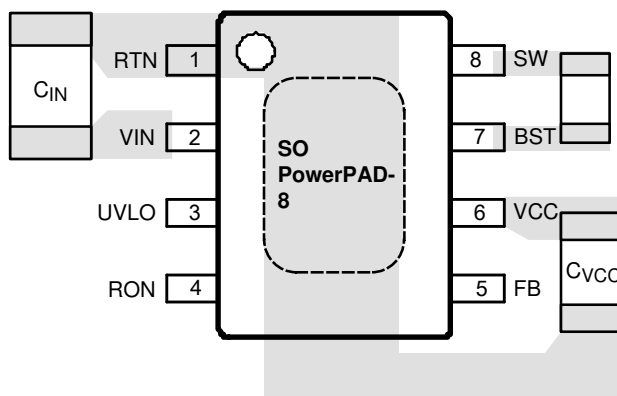

Figure 10-1. Placement of Bypass Capacitors
1. C_{IN} : The loop consisting of input capacitor (C_{IN}), V_{IN} pin, and RTN pin carries switching currents. Therefore, the input capacitor should be placed close to the IC, directly across V_{IN} and RTN pins and the connections to these two pins should be direct to minimize the loop area. In general it is not possible to accommodate all of input capacitance near the IC. A good practice is to use a 0.1- μ F or 0.47- μ F capacitor directly across the V_{IN} and RTN pins close to the IC, and the remaining bulk capacitor as close as possible (see Figure 10-1).
2. C_{VCC} and C_{BST} : The V_{CC} and bootstrap (BST) bypass capacitors supply switching currents to the high and low side gate drivers. These two capacitors should also be placed as close to the IC as possible, and the connecting trace length and loop area should be minimized (see Figure 10-1).